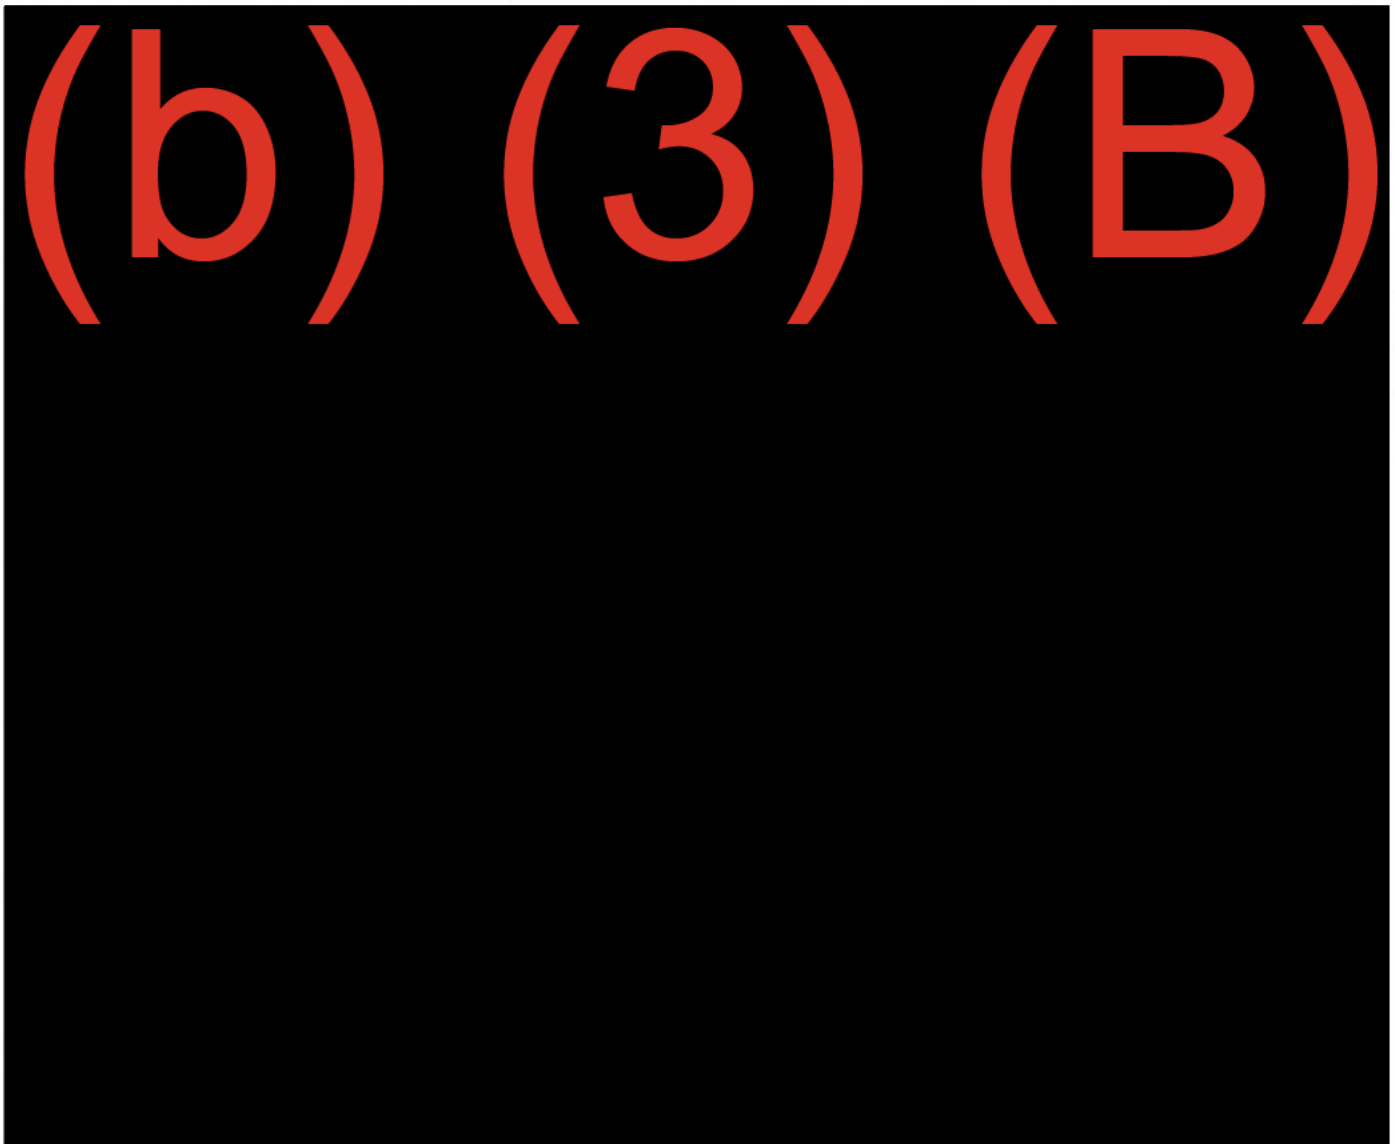

Figure 18
The original diametral clearance between the impellers and case wearing rings for different materials is shown on Fig. 18 (dwg. 108-47). Clearance between casing wearing rings and optional impeller wearing rings is also shown. When hydraulic performance is reduced substantially, the casing rings and/or impeller rings should be replaced.
c) Drill and tap three holes 120° apart in each ring. Use "F" drill $\frac{3}{16}$ " deep with $\frac{5}{16}$ " — 18 NC taps $\frac{3}{16}$ " deep. Use $\frac{5}{16}$ " x $\frac{5}{16}$ " cup point safety set screws. Tighten screws and lightly "upset" threads. See Fig. 18.
d) Replacement impeller rings are supplied .021" to .039" oversize and must be turned to size after mounting on impeller. See Fig. 18 for dimensions.
The impellers should tap easily on the shaft. If the impellers do not tap on readily, the bore and shaft should be inspected to see that they are free from foreign matter or burrs. The fit of the key in the keyways should also be checked to see that it is not causing binding. See Fig. 18.